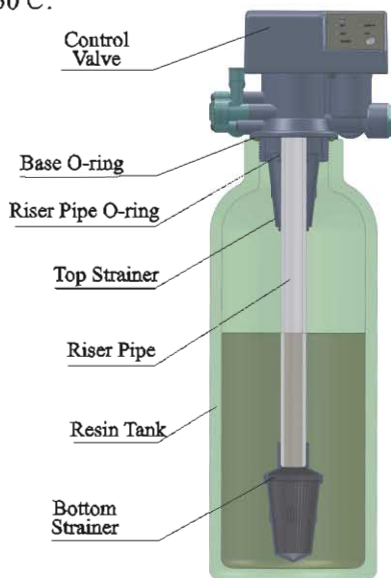

Figure 1-1
- ① The filter or softener should be located close to drain.
- ② Ensure the unit is installed in enough space for operating and maintenance
- ③ Brine tank need to be close to softener.
- ④ The unit should be kept away the heater, and not be exposed outdoor. Sunshine or rain will cause the system damage
- ⑤ Please avoid to install the system in one Acid/Alkaline, Magnetic or strong vibration circumstance, because above factors will cause the system disorder.
- ⑥ Do not install the filter or softener, drain pipeline in circumstance which temperature may drop below 5°C, or above 50°C.
- ⑦ One place is recommended to install the system which cause the minimum loss in case of water leaking.
① Install control valve
a. As the Figure 1-1 shows, select the riser pipe with 26.7mm OD, glue the riser pipe to the bottom strainer and put it into the mineral tank, cut off the exceeding tube out of tank top